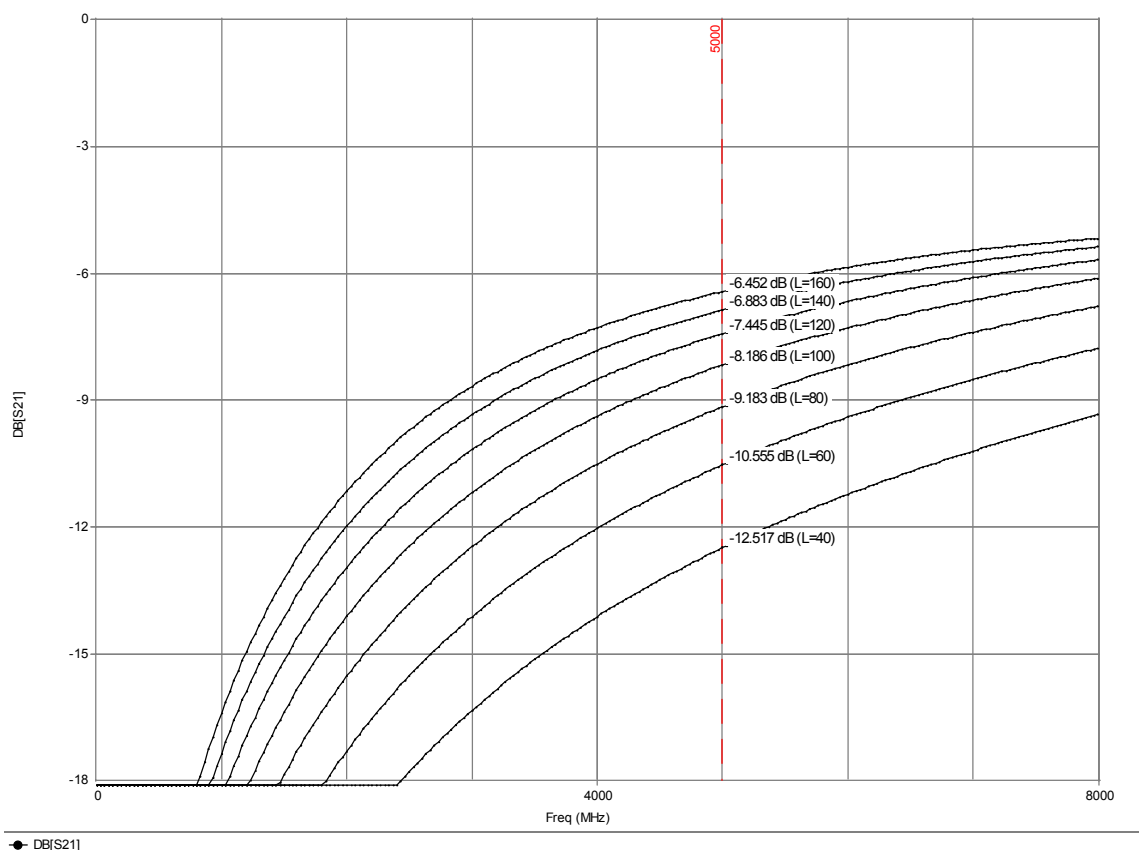

Figure 8. Parameter Sweep for Finger Lengths Between 40 – 160 mils.
Consider the affect of increasing the finger length (L). GENESYS will readily generate a parameter sweep over the desired range. To set up a sweep, give the length parameter a variable name such as “L”. Under Equations, enter: $L=750$. Then select “Add Parameter Sweep” by right clicking on “Simulations/Data” on the “Workspace Tree”. Fill in the resulting dialog box with start value (40), stop value (160) and number of points (7). Add a graph of s21 using the sweep simulation data. The resulting plot (Figure 8) is shown below. Note the law of diminishing returns for larger lengths. As the length of the fingers increases, the frequency response deviates more from that of a lumped capacitor.